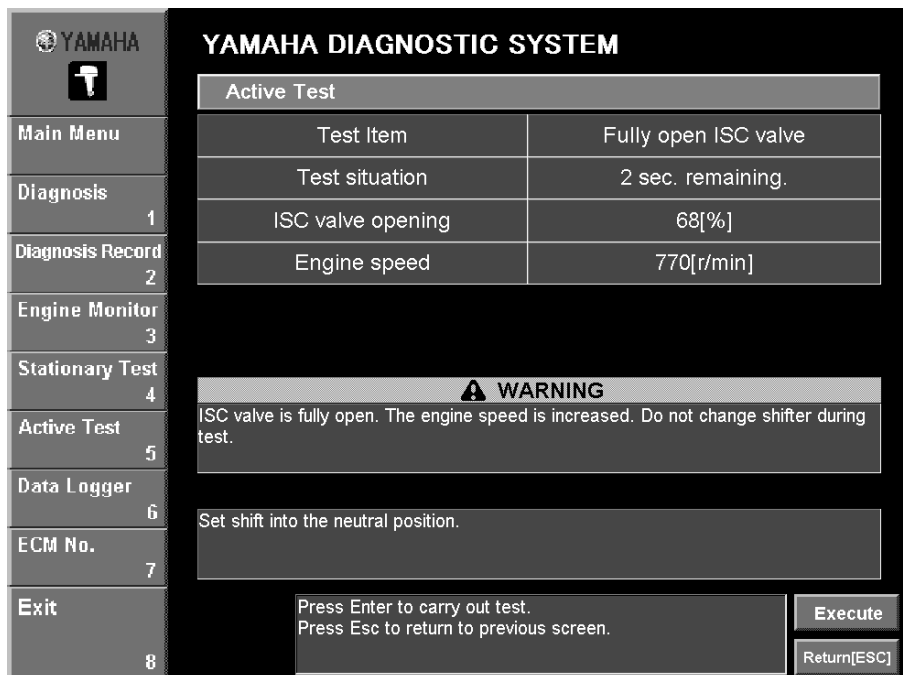

Fig. 46
2. Click the **Execute** button or press the Enter key on your keyboard. (Fig. 46)